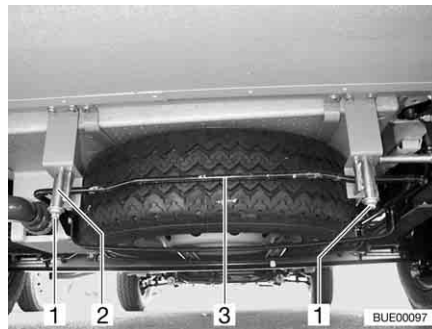

Fig. 257 Spare wheel support (basket)
- Loosen the nuts (Fig. 257,1) on the right and left rear hooks (Fig. 257,2) of the spare wheel support.
- Pull the bar (Fig. 257,3) slightly upwards. At the same time, pull down the hooks and unhook the bar.